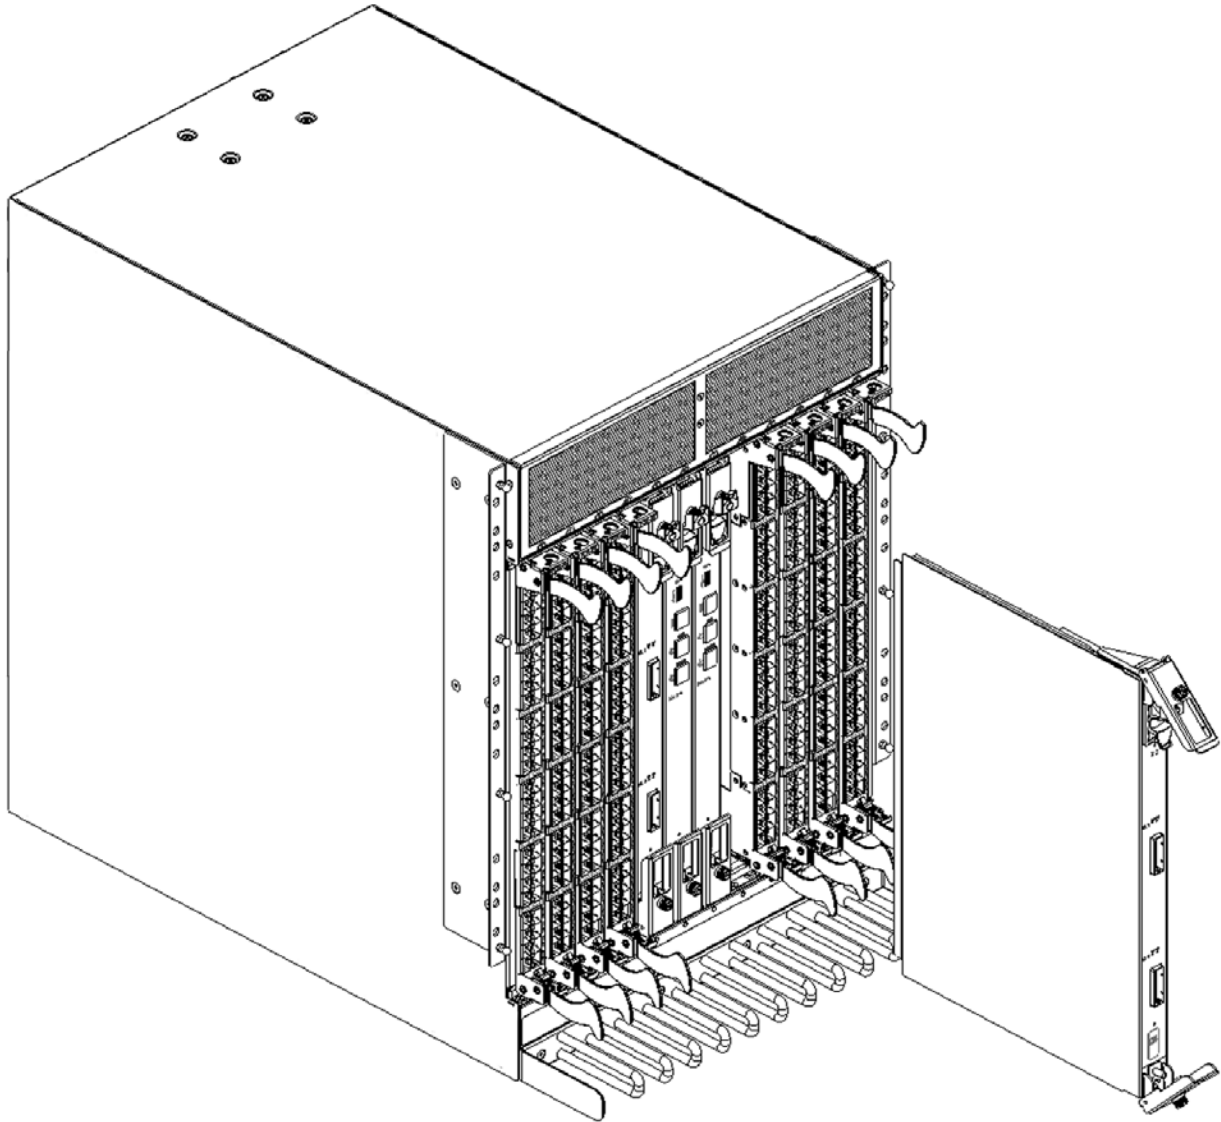

Figure 26. Removing the core switch blade
2. Power off the blade by sliding the slider switch in the top ejector down to the off position (see Figure 26 on page 65).
5. Lever open both ejector handles simultaneously to approximately 45 degrees and pull the core switch blade out of the chassis (see Figure 26 on page 65).